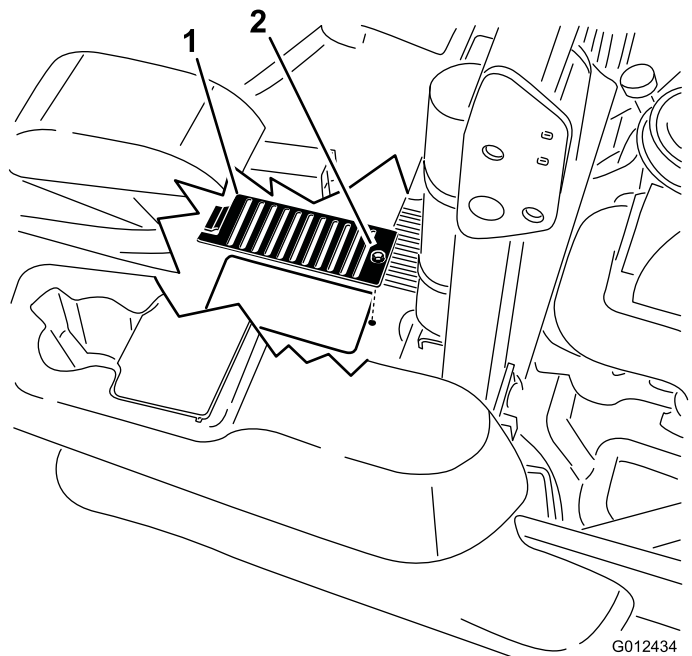

Figure 75
6. Over each dipstick, remove the cover and the bolt attached to the cover. Clean around each dipstick and hydraulic unit (Figure 75).